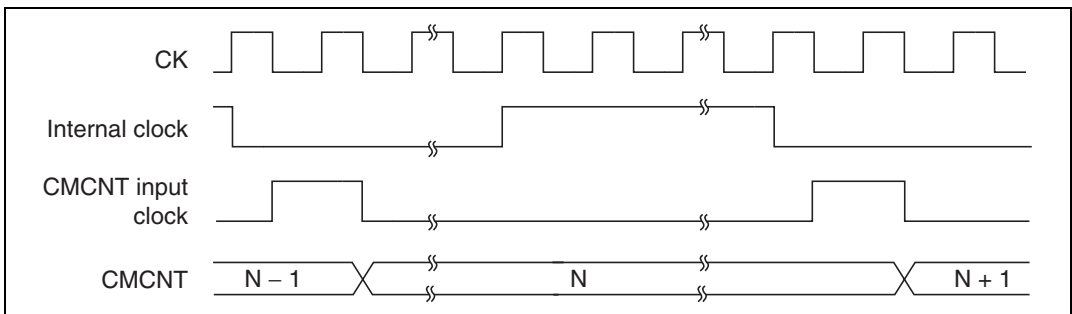

Figure 15.3 Count Timing
One of four clocks ($\phi/8$, $\phi/32$, $\phi/128$, $\phi/512$) obtained by dividing the system clock (CK) can be selected by the CKS1, CKS0 bits of the CMCSR. Figure 15.3 shows the timing.